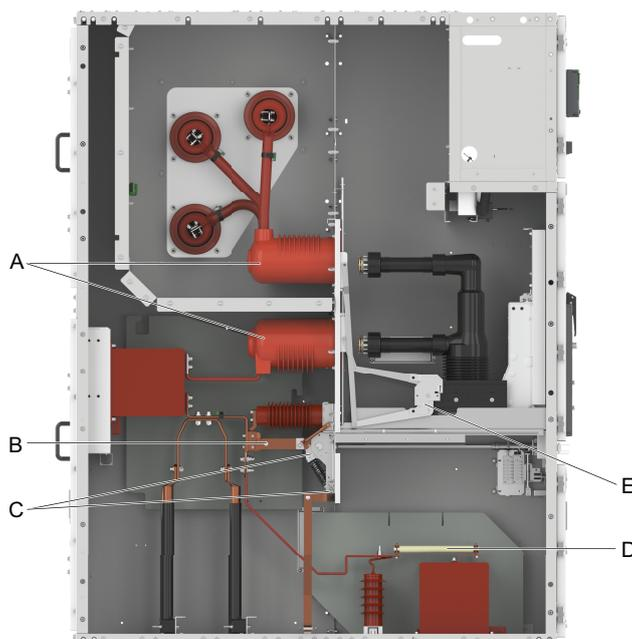

Figure 88
2. Clean lubrication points using a lint-free cloth, Refer to Figure 88.